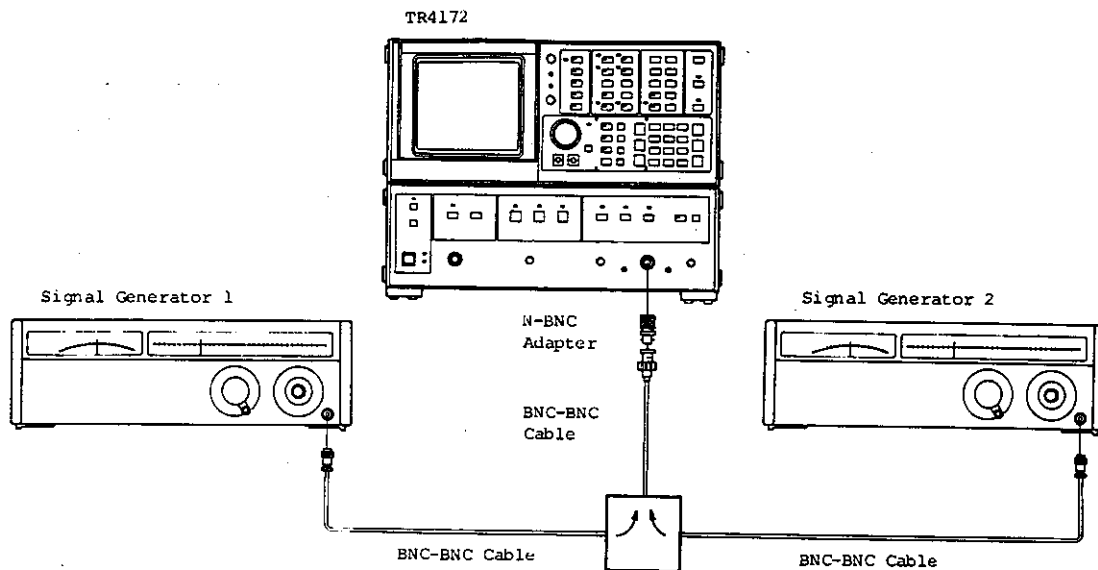

Fig. 4-3 Measurement setup
- ① Connect the outputs of two signal generators to the input of the TR4172 via a two-signal measuring pad (two-signal branching unit) (See Figure 4-3). When setting the SG output level, the insertion loss (approximately 6 dB) of the branching unit should be taken into account. If you set the outputs of the two SGs at the same frequency, note the maximum allowable input level of the TR4172 (+20 dBm).